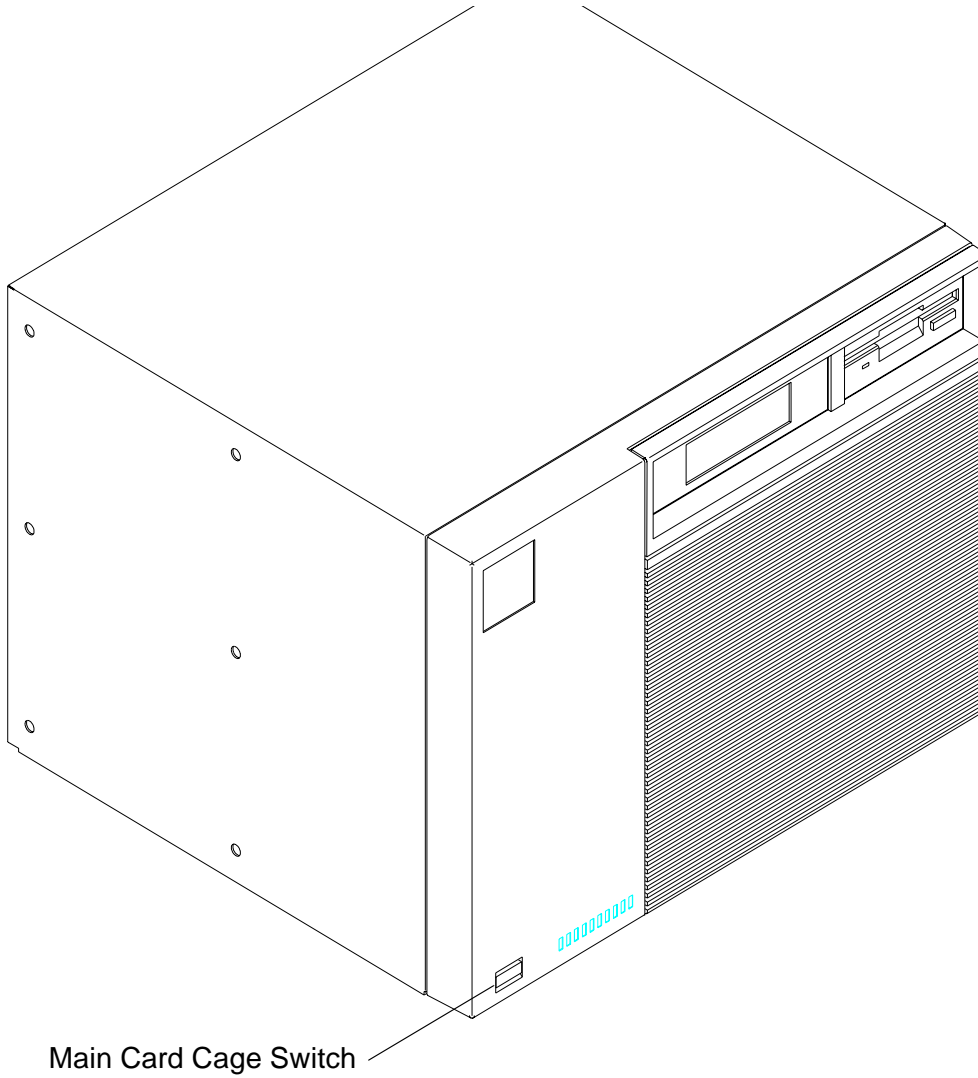

Figure 9-2 **Card Cage Power Switch**
- 2 Push in the power switch on the front of the card cage to apply power to the entire card cage (see Figure 9-2).